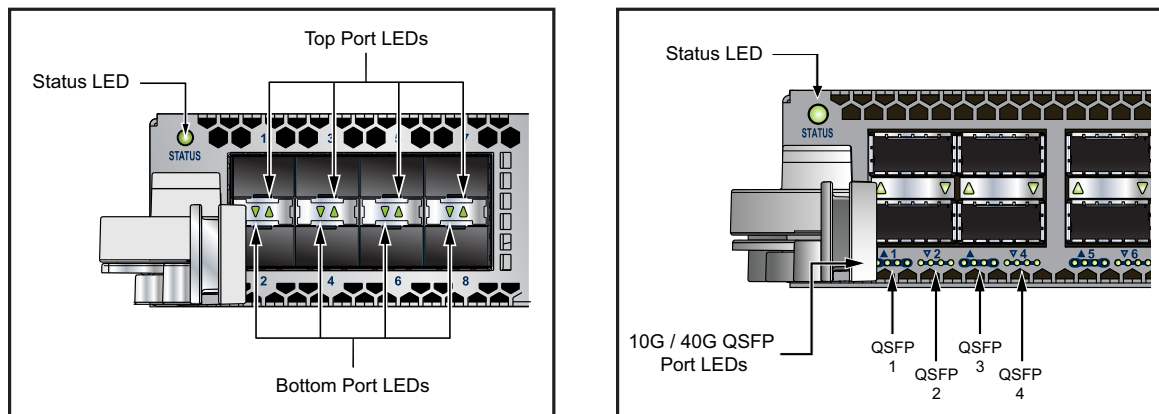

Figure A-3: line card Status LED
Each line card module provides one status LED plus LEDs for each port on the card. The figures in Appendix E indicate the location of the LEDs on each line card. Figure A-3-left displays the status LED and Port LEDs on the left side of the DC-7548S-LC line card. Figure A-3-right displays the status LED and Port LEDs on the left side of the DCS-7500E-36Q-LC line card.
- Figure A-3-left displays SFP module LEDs. Each LED corresponds to a module.
- Figure A-3-right displays QSFP module LEDs. A set of four LEDs correspond to each module. When the module is programmed as a 40G port, the first LED in the set reports status. When the module is programmed as four 10G ports, each port is assigned to an LED within the set.